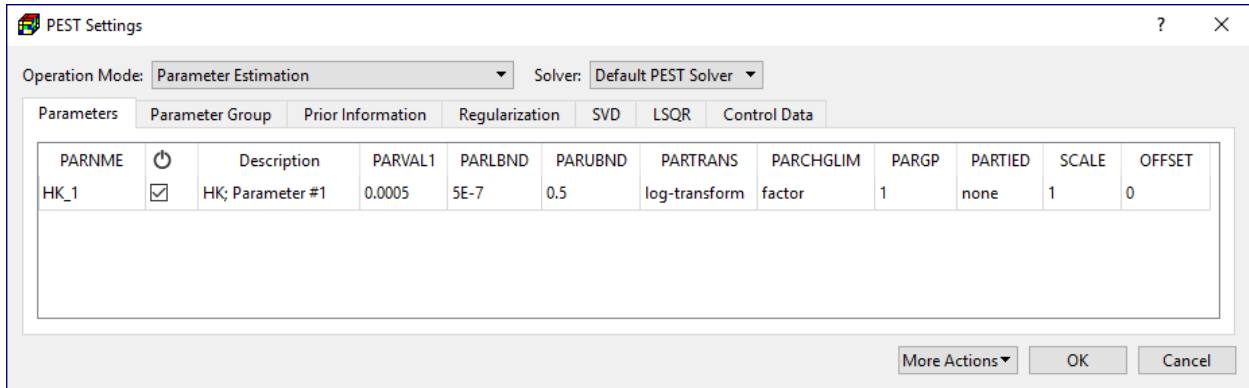

Figure 23. The PEST Settings dialog box
1. Select Models > PEST > Settings to open the PEST Settings dialog box (Figure 23). When the dialog box is opened for the first time, PM will search for the estimable parameters and put them in the Parameters table. If you define additional estimable parameters later, you will need to select More Actions > Search for Parameters to add them to the table. In this example, a parameter named HK_1 has been added to the table with the following values: